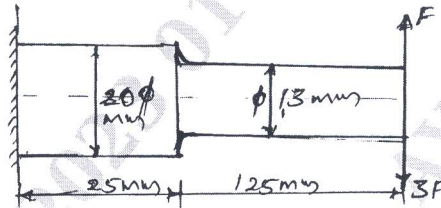

Fig.Q4
- 4 A cantilever beam is subjected to load varies from F to $3F$ as shown in Fig.Q4. Determine the maximum load at this member can withstand for an indefinite life. The material of beam has $\sigma_u = 550$ MPa, $\sigma_y = 470$ MPa, $\sigma_{en} = 275$ MPa, $k_t = 1.42$, FOS = 2, Notch sensitivity is 0.9.